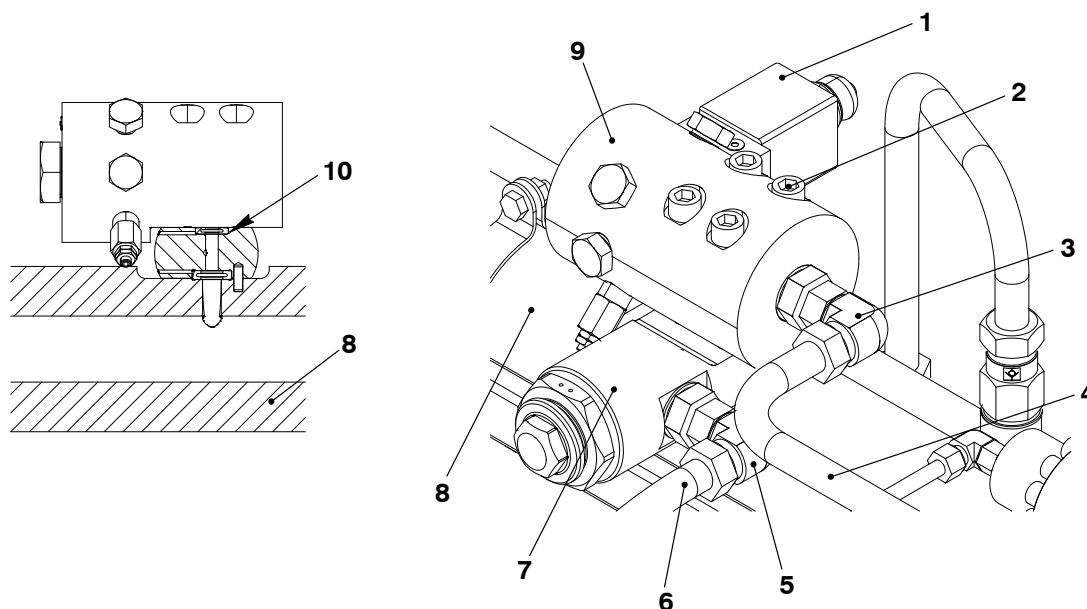

Fig. 1
- 1) Disconnect the electrical connection from the solenoid valve (1, Fig. 1).
- 2) Loosen the angle union (3).
- 3) Remove the fuel return pipe (4) from the pressure control valve (PCV) (9).
- 4) Loosen the angle union (3).
- 5) Remove the fuel return pipe (6) from the relief valve (7).
- 6) Remove the four Allen screws (2).
- 7) Remove the PCV (9) from the fuel rail (8).
- 8) Examine the lip seal (10) for damage. If you find damage, remove and discard the lip seal.